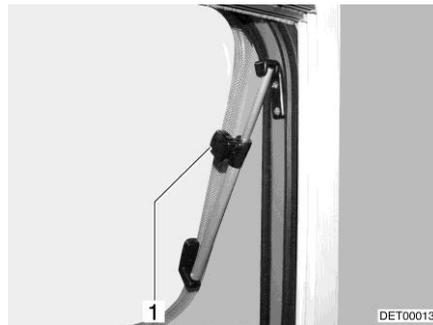

Fig. 70 Skylight with rotary hinges, open
- Open the skylight until the required position has been reached and use knurled knob (Fig. 70,1) to secure in position.
- Turn knurled knob (Fig. 70,1) until the latch is released.